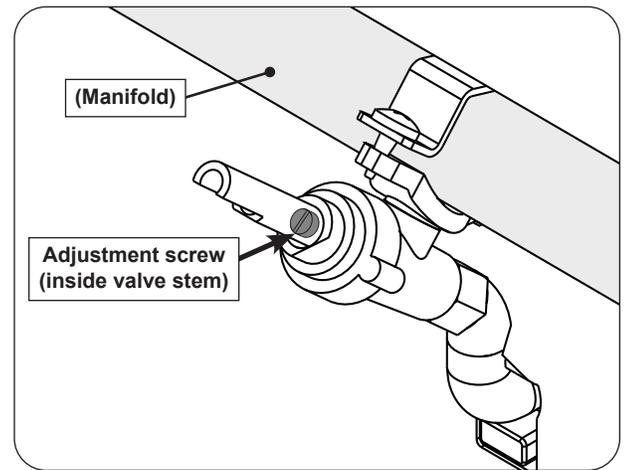

Fig. 37-1 Valve adjustment screw location
4. Locate the FLATHEAD adjustment screw found inside the valve stem (see Fig. 37-1).